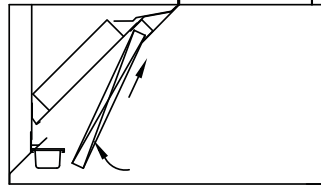

Fig. 22
5. Install the Grease-X-Tractor™ primary filters in the same manner using the front filter channel. (Fig. 22)